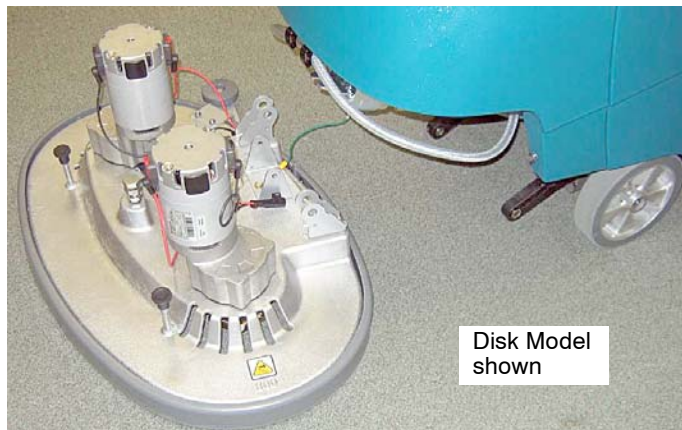

Fig. 1
3. Remove the front shroud and the scrub head assembly from the machine (Figure 1).